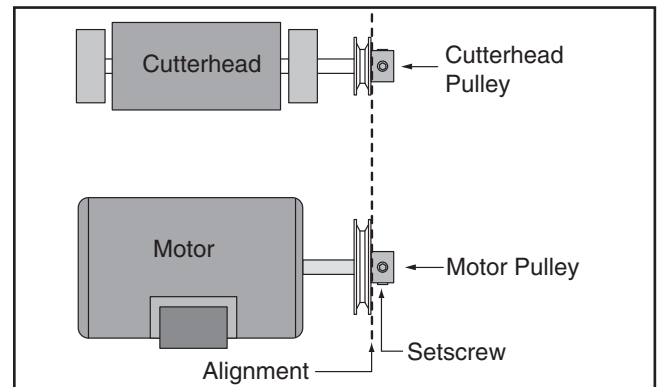

Figure 16. The pulleys should be parallel and aligned.
- Looking from the top, sight down the V-belt and pulleys and check to see that the pulleys are parallel and aligned with each other (see **Figure 16**).
- Tighten the set screws, replace the V-belts, and repeat **Step 4**. Belts should be parallel and aligned as shown in **Figure 16**.